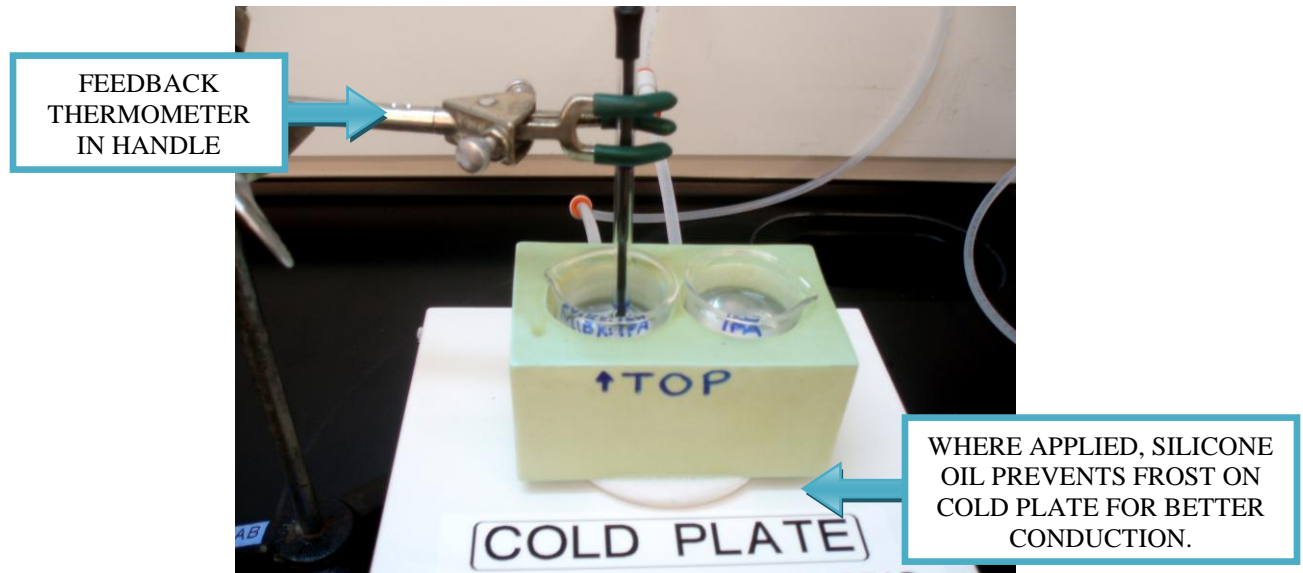

Figure 5 Beaker and feedback thermometer setup
- Carefully remove the feedback thermometer from its holder, connect the cable to the bottom right outlet on the cold plate (pins have different widths!), and use the lab-stand handle to hold the feedback thermometer in place (Fig. 5). The bulb of the feedback thermometer should be inserted down approximately to the half-way height of the liquid being cooled. If you intend to conduct a process like cold development of electron beam exposed structures, you will have to leave enough room for a tweezer and your sample to be inserted beside the feedback thermometer.